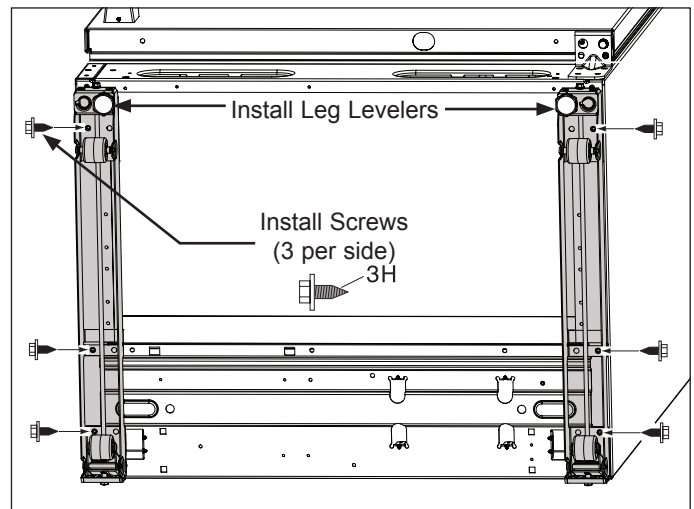

Figure 4
- a. Attach the current leg leveler to leveling system. The leg leveler is a common part that will work on both bottom sides of the unit. (See Figure 4).
- b. Attach leg leveler with three (3) screws per side using a 3/8 socket.